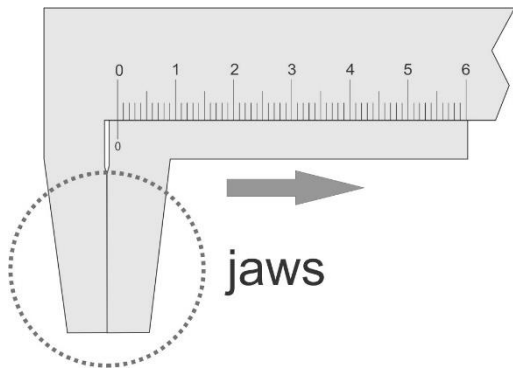
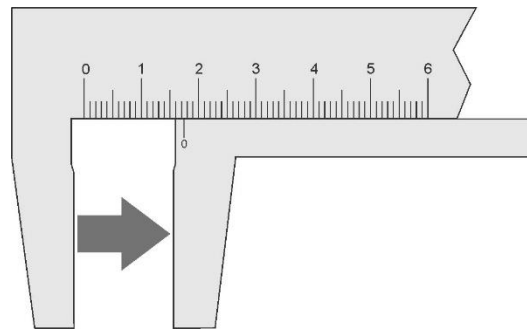

Figure 2 Vernier caliper with jaws closed
Figure 3 The Vernier caliper with its jaws opened
2. The jaws of the caliper are closed in **figure 2**. The bottom jaw slides along the main cm scale just above it – see **figure 3**. The 0 mark on the bottom jaw and the 0 mark on the cm scale are aligned with each other when the jaws are closed – **figure 2**. In **figure 3** the jaws were opened to the indicated position. How many millimeters were they opened, that is how far did the 0 on the bottom jaw slide along the cm scale above it? Estimate the fraction of the millimeter value, Δ , again.